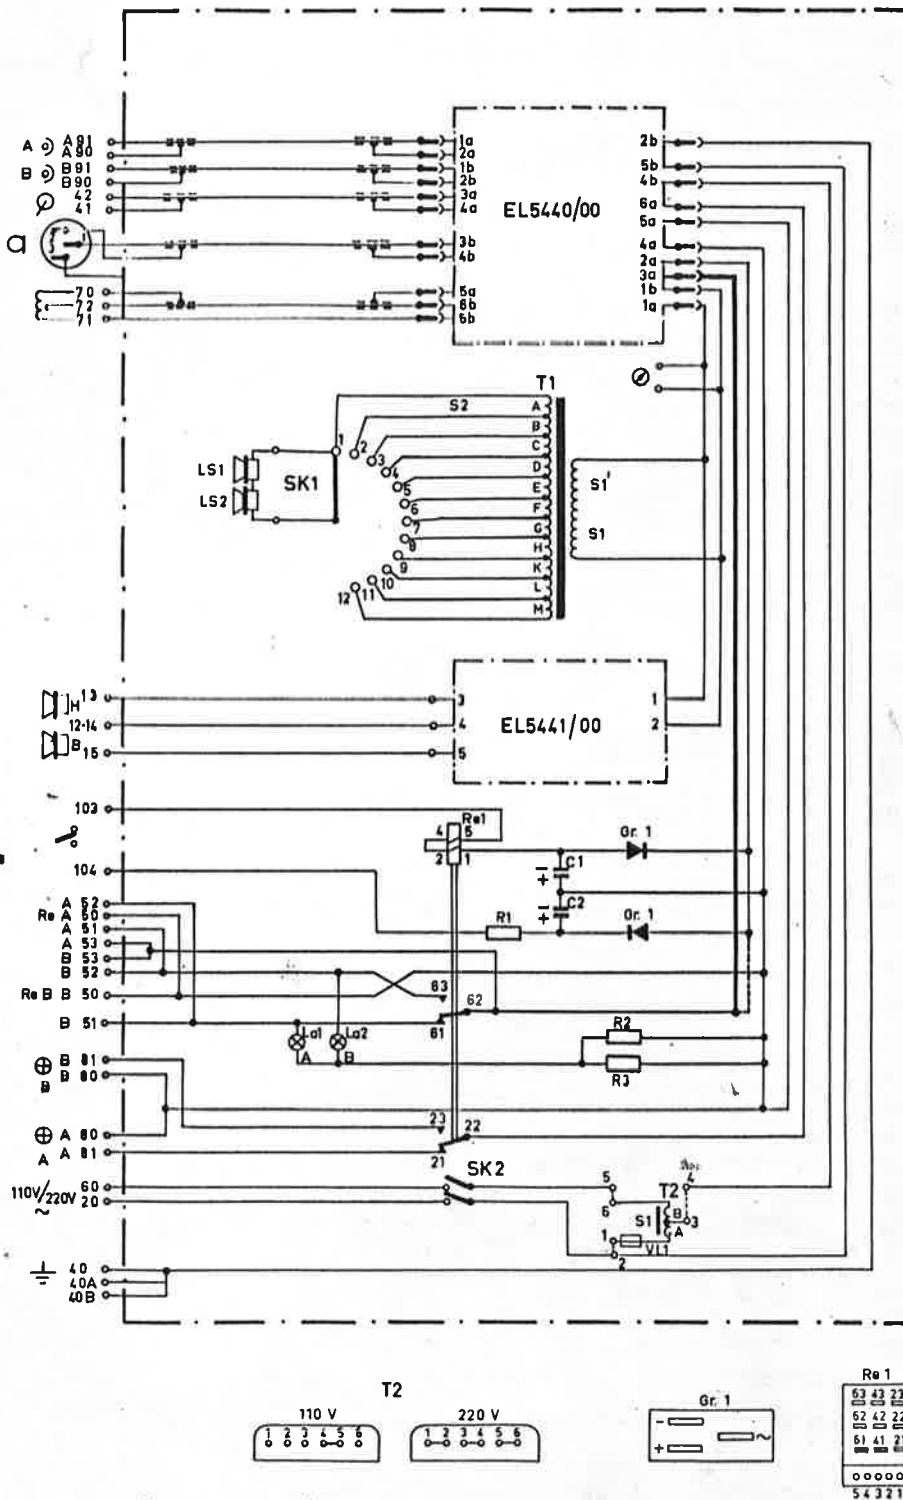

Fig 5
a. Loosen point 2a from point 62 of RE1 (dotted line, fig. 5);
b. Connect point 3a (of the female plug) of the EL 5440/00 to point 63 of RE1 (heavy line in fig. 5).